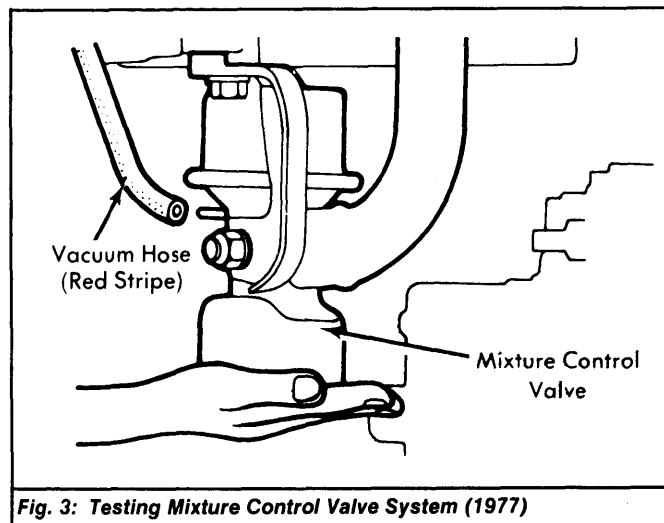

Fig. 3: Testing Mixture Control Valve System (1977)
2) Place hand under mixture control valve and reconnect vacuum hose. See Fig. 3. No suction should be felt. If suction is felt, thermo valve or mixture control valve is defective and should be replaced.